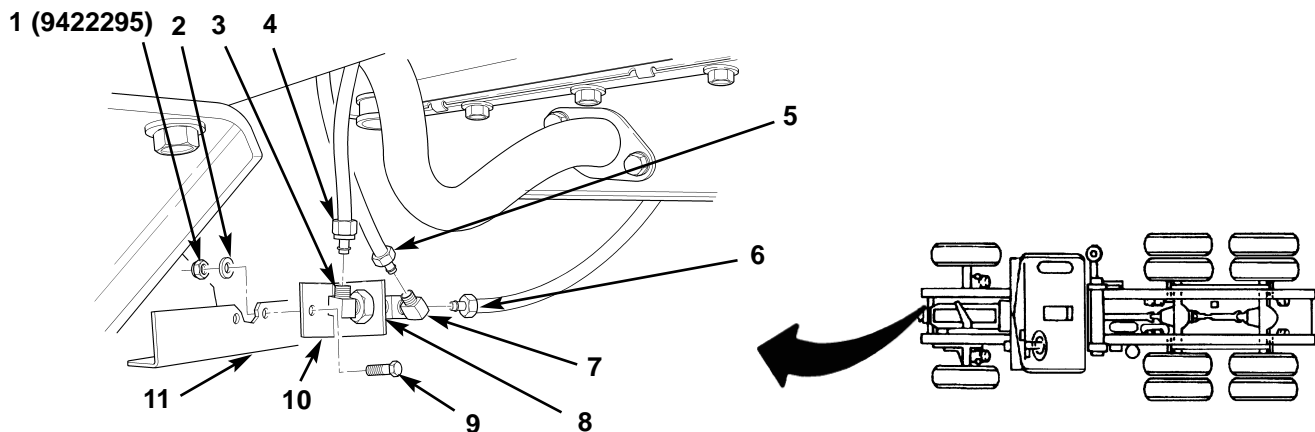

Figure 43. Installing Bulkhead Bracket and Connecting Tubes.
11. Install bulkhead fitting mount (figure 43, item 10) on front crossmember (figure 43, item 11) with bolt (figure 43, item 9), washer (figure 43, item 2), and new locknut (figure 43, item 1).
12. Connect air tubes (figure 43, items 4, 5, and 6) to elbows (figure 43, items 3 and 7) and adapter (figure 43, item 8).